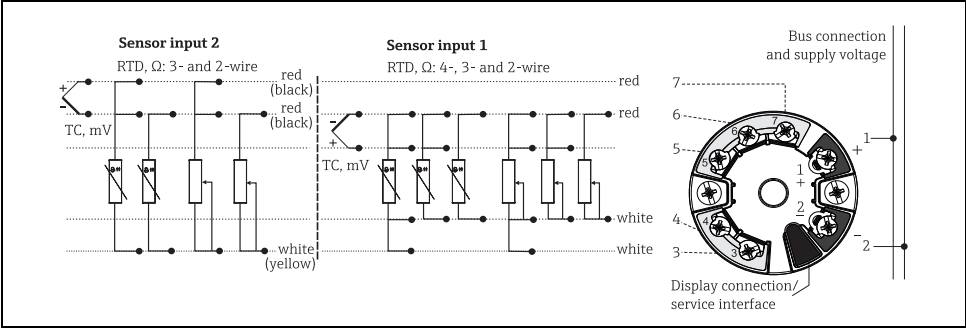

Fig. 5: Wiring the head transmitter
3. Connect the cables as shown in → Fig. 5. If the head transmitter is fitted with spring terminals, please pay particular attention to →  33.